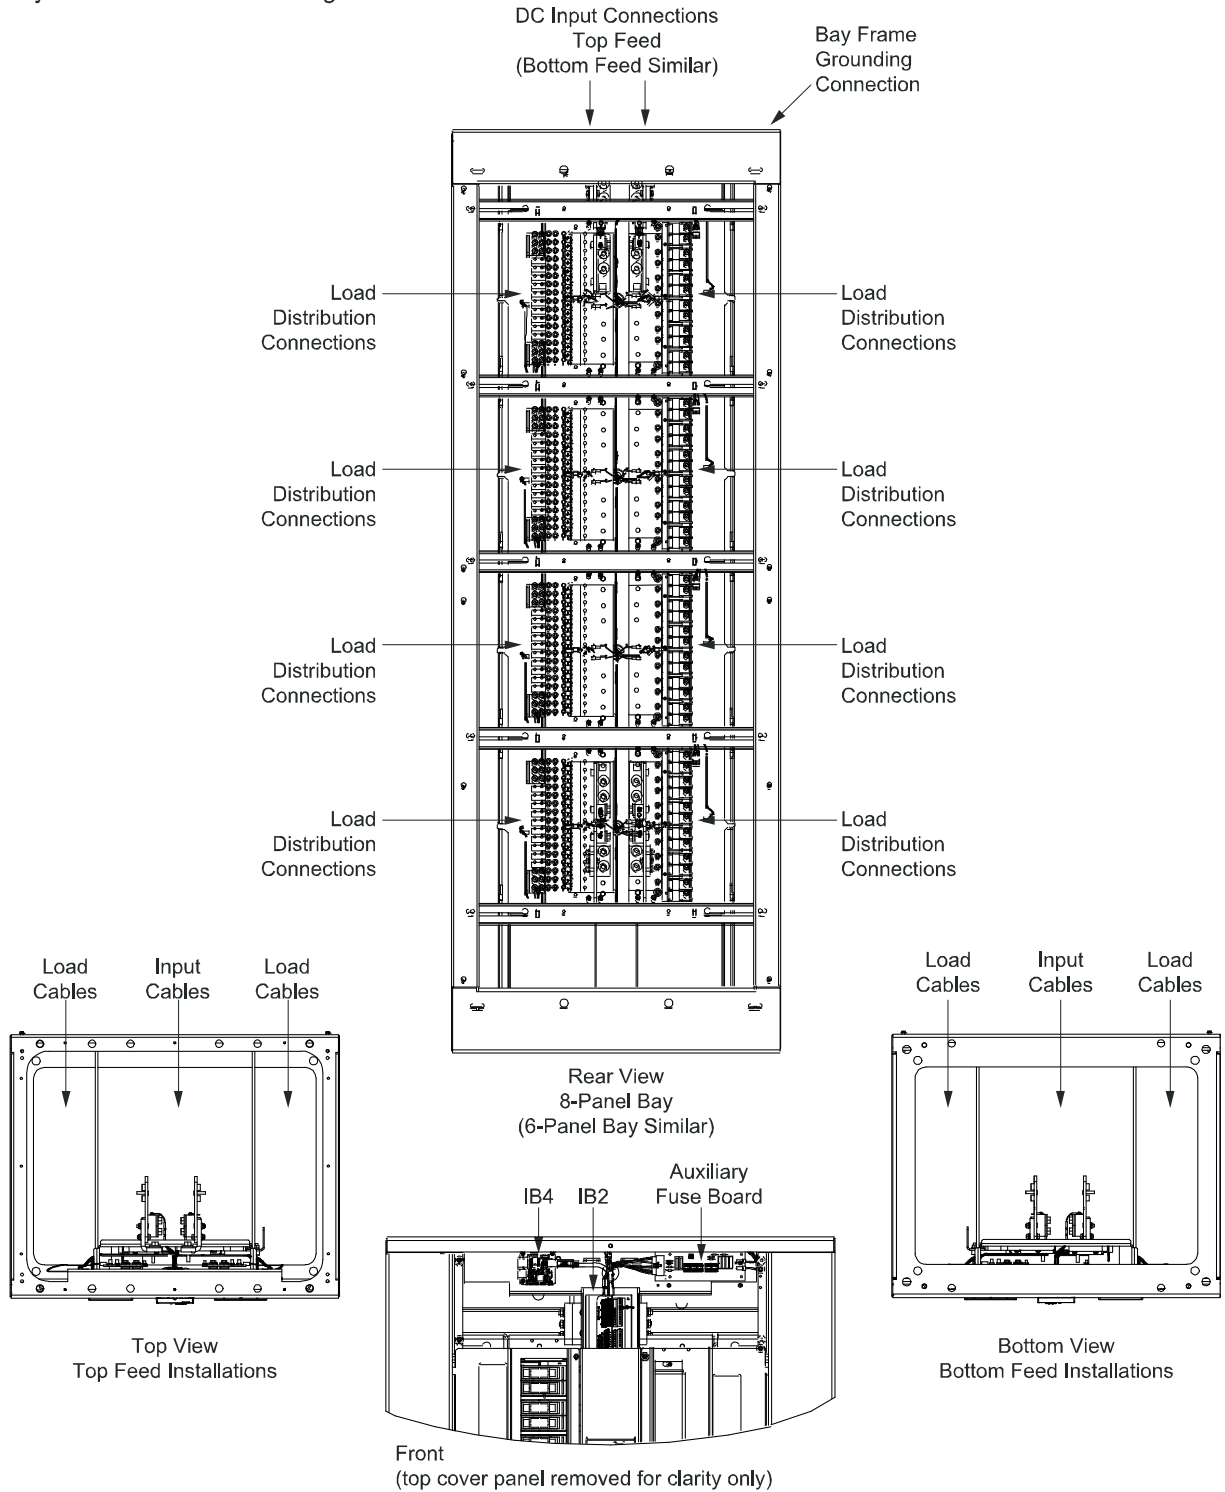
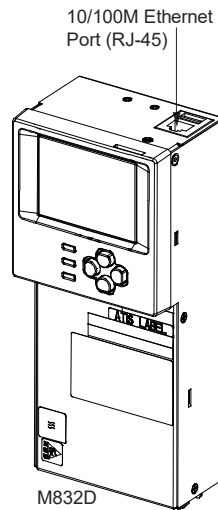
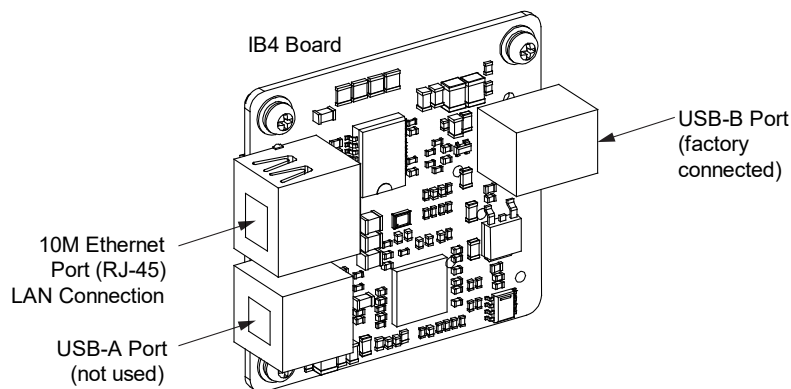

Figure 10
Figure 14
Figure 15
- ◆ Control and auxiliary load fuses are located on the fuseblock mounted at the top right of each bay. See Figure 10 and Figure 12.
The monitor unit provides a Web Interface via an Ethernet connection to a TCP/IP network. This interface can be accessed locally on a computer or remotely through a network. An Ethernet port is provided on the monitor unit's top panel (see Figure 14). A second Ethernet port is provided on the IB4 board (see Figure 10 and Figure 15). The Ethernet port located on the monitor unit's top panel can ONLY be used to connect a computer directly to the monitor unit. The Ethernet port located on the IB4 board can be used to connect the monitor unit to your Local Area Network (LAN).
An RJ-45 10BaseT jack is provided on the top panel of the monitor unit for connection to a computer for local access to the monitor unit's web pages (see Figure 14).
An RJ-45 10BaseT jack is provided on the IB4 board for connection into a customer's Local Area Network (LAN) for remote access to the monitor unit's web pages (see Figure 10 and Figure 15).